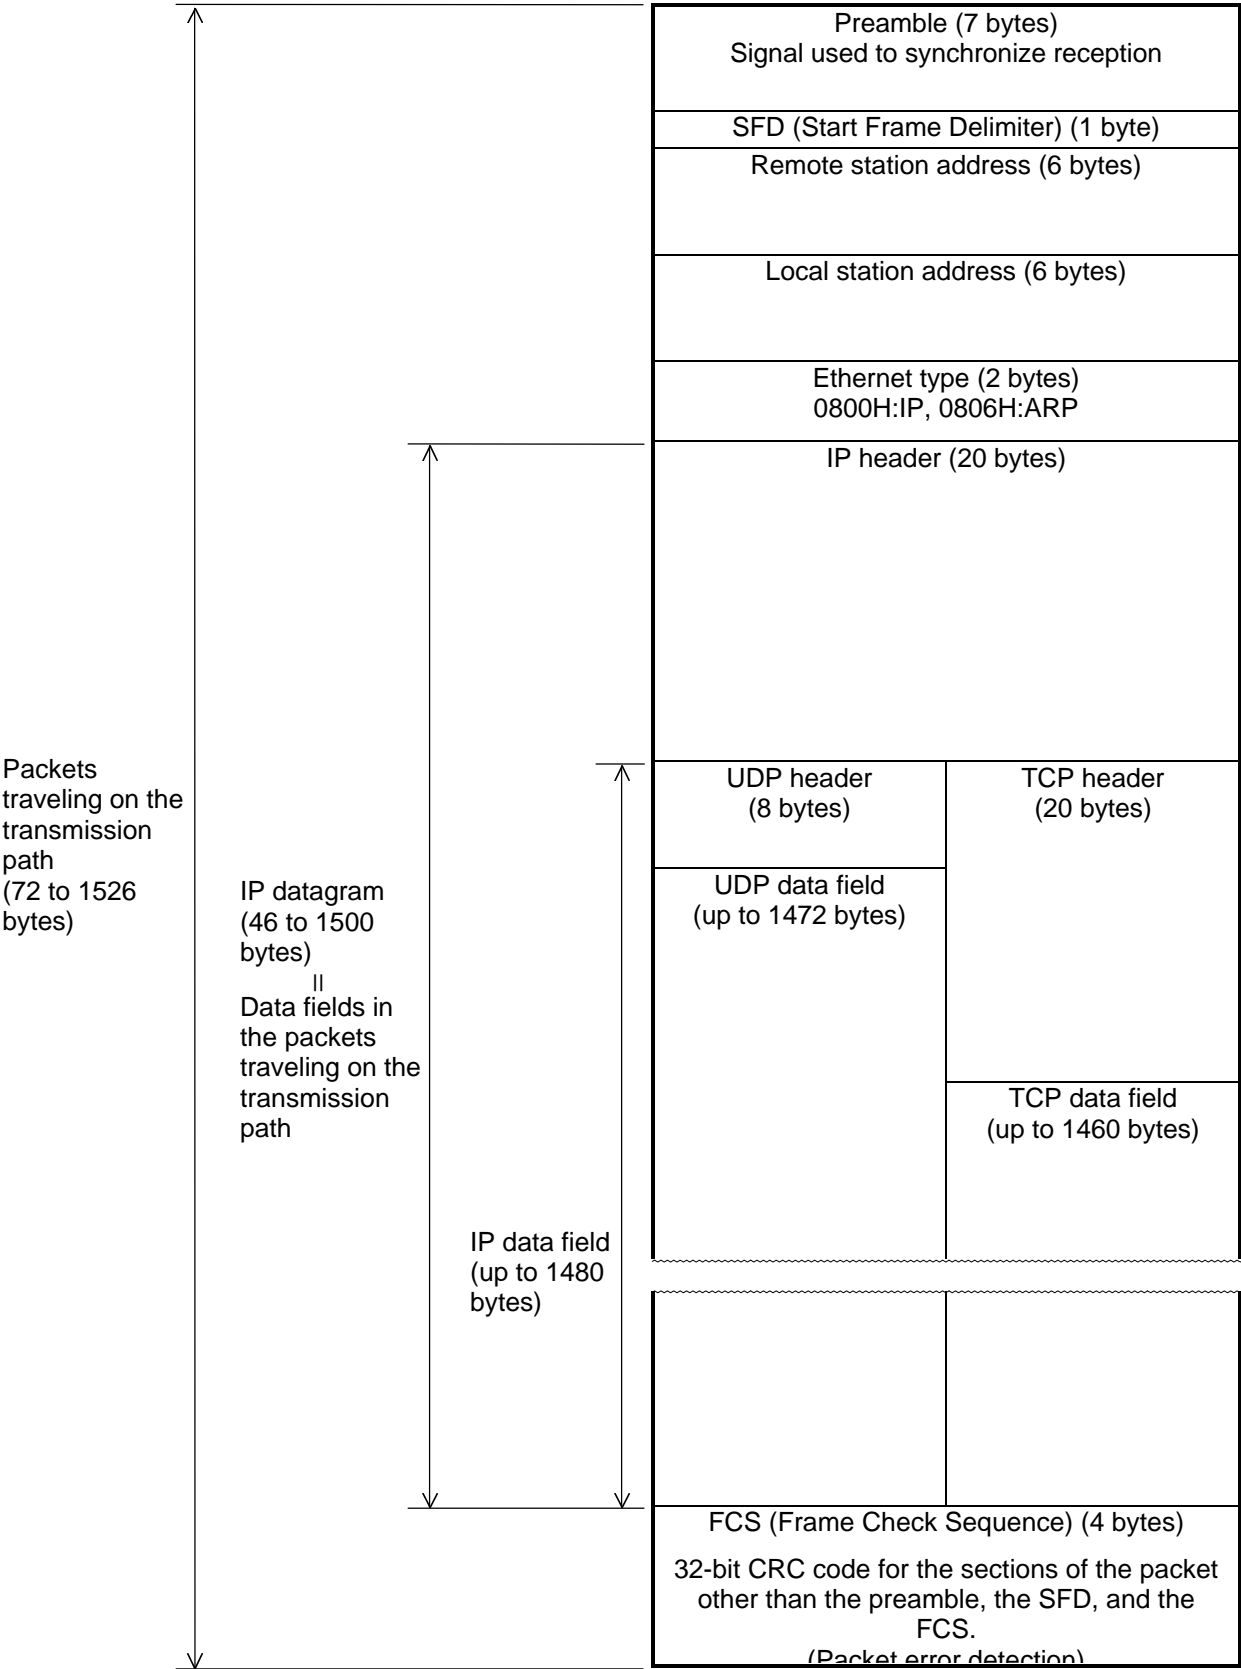

Figure 6.8 Packet Format/IP Datagram
- c. Transmitted data that exceeds 1472 bytes is divided (fragmented) into units of 1472 bytes. This is the limit of the length of packets (data units flowing on the network) transmitted over the network (10BASE5/2). (See figure 6.8.)
- g. When the TCP socket interface is used, transmitted data is divided (fragmented) into units of a size determined when the connection between the two sockets was established. The upper limit of the fragment size is 1460 bytes. This is the limit of the length of packets (data units flowing on the network) transmitted over the network (10BASE-5/2). (See figure 6.8.)